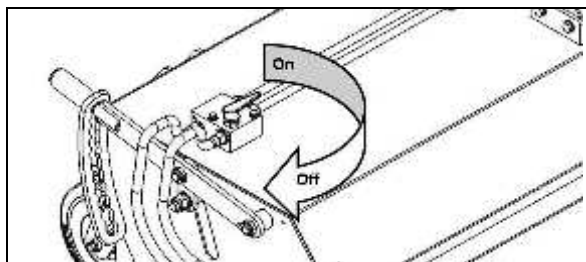
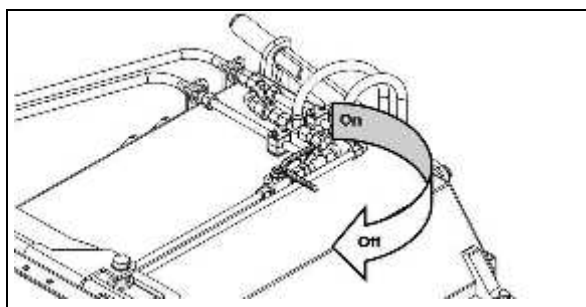

Fig. 4.10
Fig. 4.11
- Open stopcock to the hydraulic motor of the side brush (Fig. 4.10) as well as hydraulic cylinder of the collection container (Fig. 4.11).